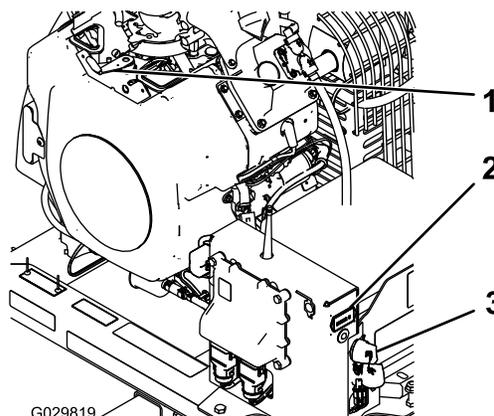

Figure 14
2. Rotate the engine ignition key to the START position (Figure 14).
- If leaving the machine, rotate the key to the OFF position and remove it from the ignition switch (Figure 14).